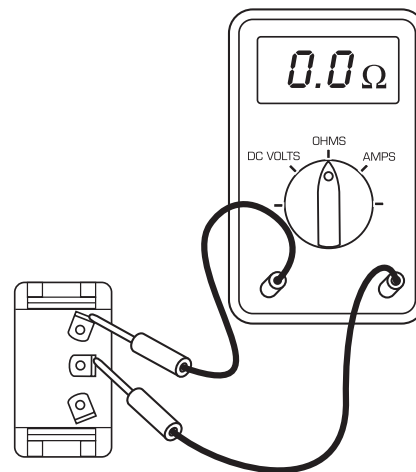

Figure 63
3. **Press bottom switch.** Connect ohmmeter between momentary switch input power terminal and its top output power terminal (Figure 63). Ohmmeter must indicate **continuity**.